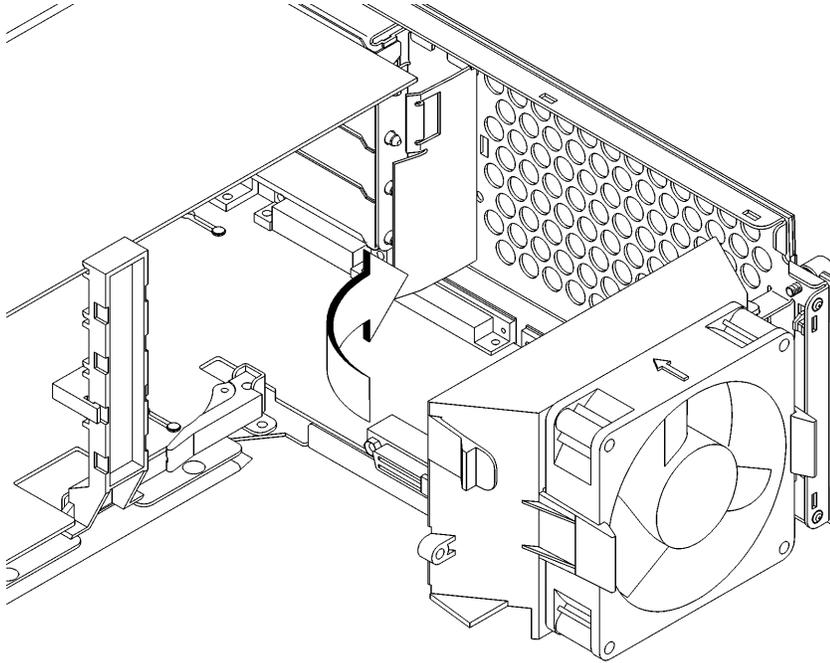

Figure 57 **Securing the Fan**
- 11 Rotate the fan back into place, as shown in Figure 57. Push it into the rear panel firmly until the clip snaps into place.